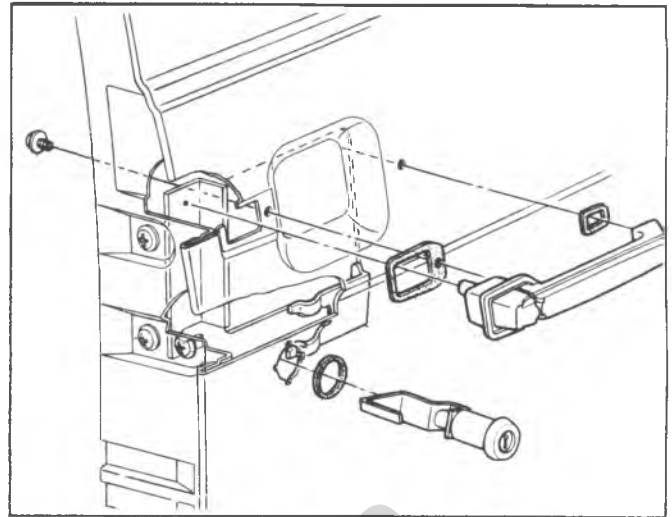

Fig. 2D-129—Outside Handle and Lock Cylinder
2. Remove door handle retaining screws, handle and gaskets. See figure 2D-129.